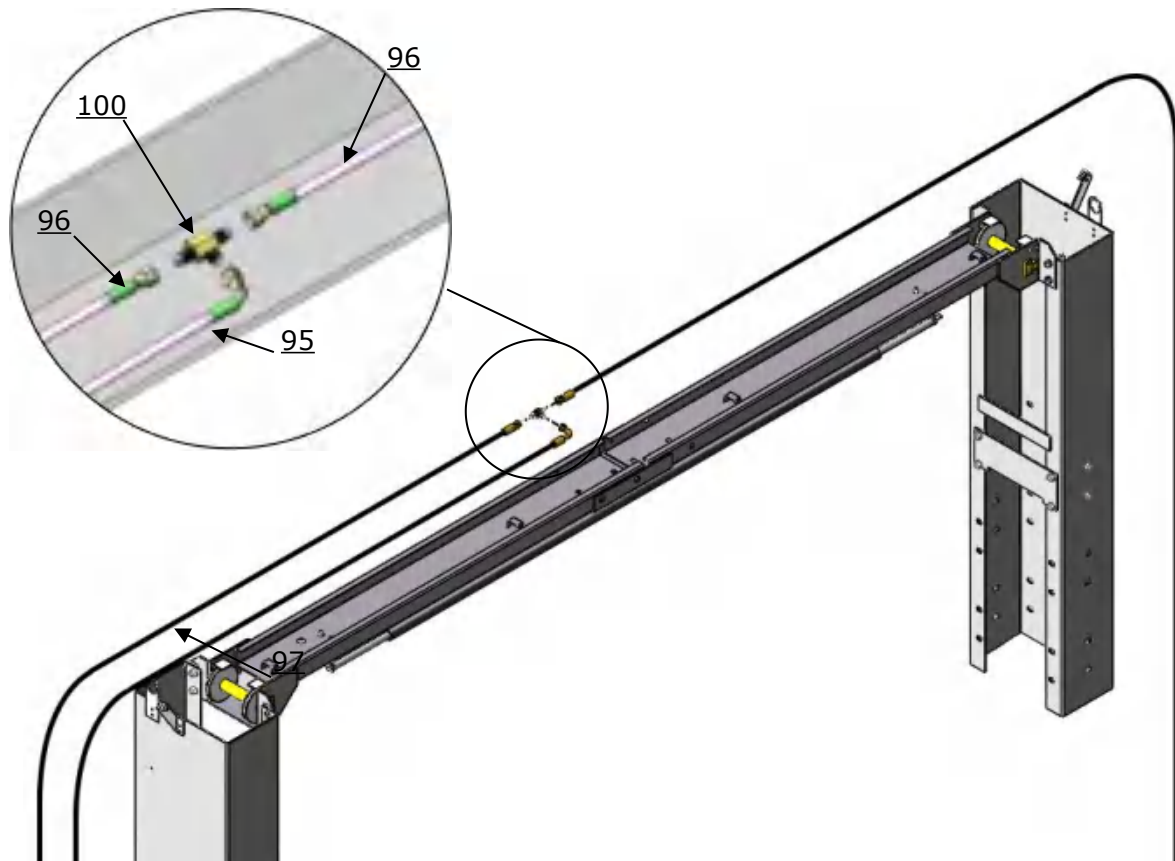

Fig.37
3. Oil hose installation of low setting. **(Fig.37)**